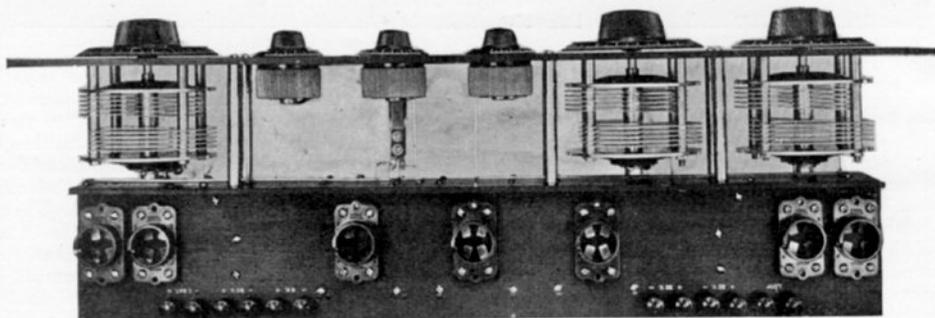

Fig. 5. Looking down upon the set you can see the new and very interesting arrangement for the instruments
1. Fasten the six panel support pillars to the sub panel with  $\frac{1}{2}$ -in. 6-32 F. H. screws. These can be seen in Fig. 5.